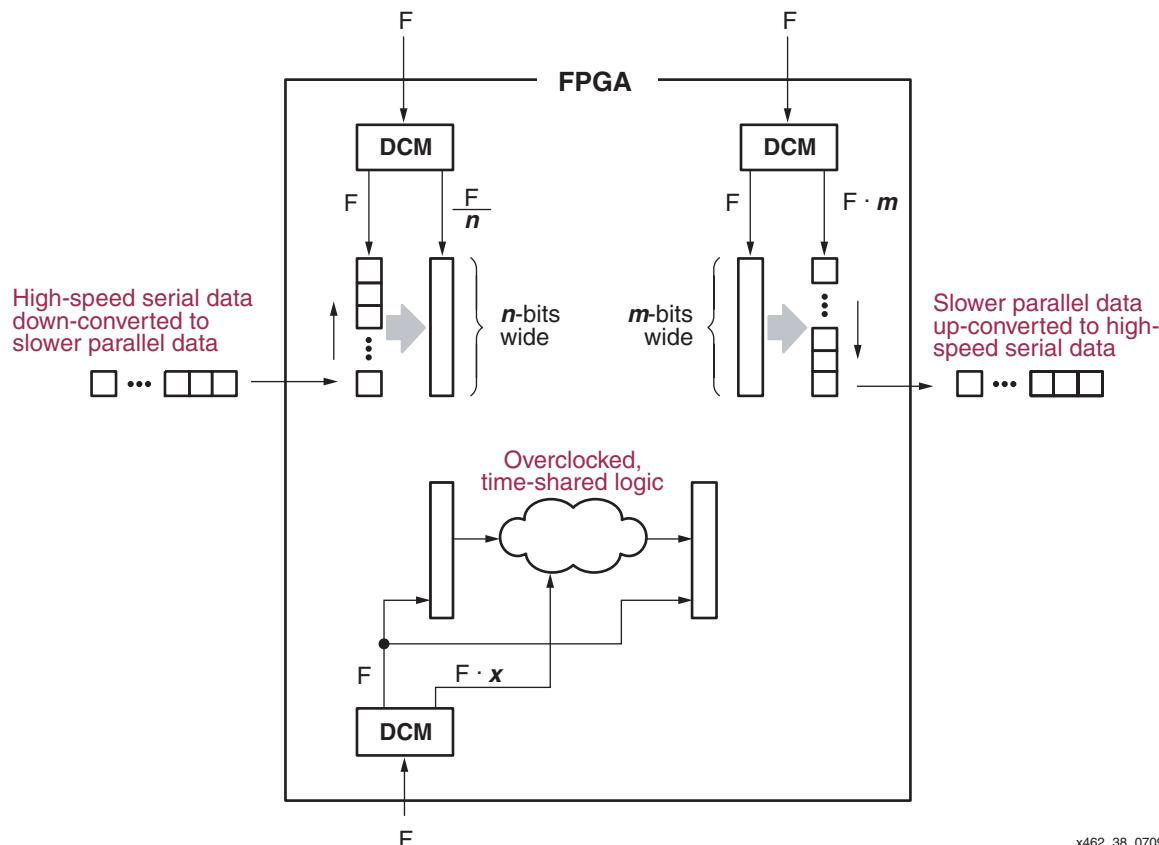

Figure 3-38: Common Applications of Frequency Synthesis
- Dividing a high-speed serial data clock to process data in parallel within the FPGA, as shown in Figure 3-38.
- Multiplying a parallel data clock before converting to a high-speed serial data format, also shown in Figure 3-38.